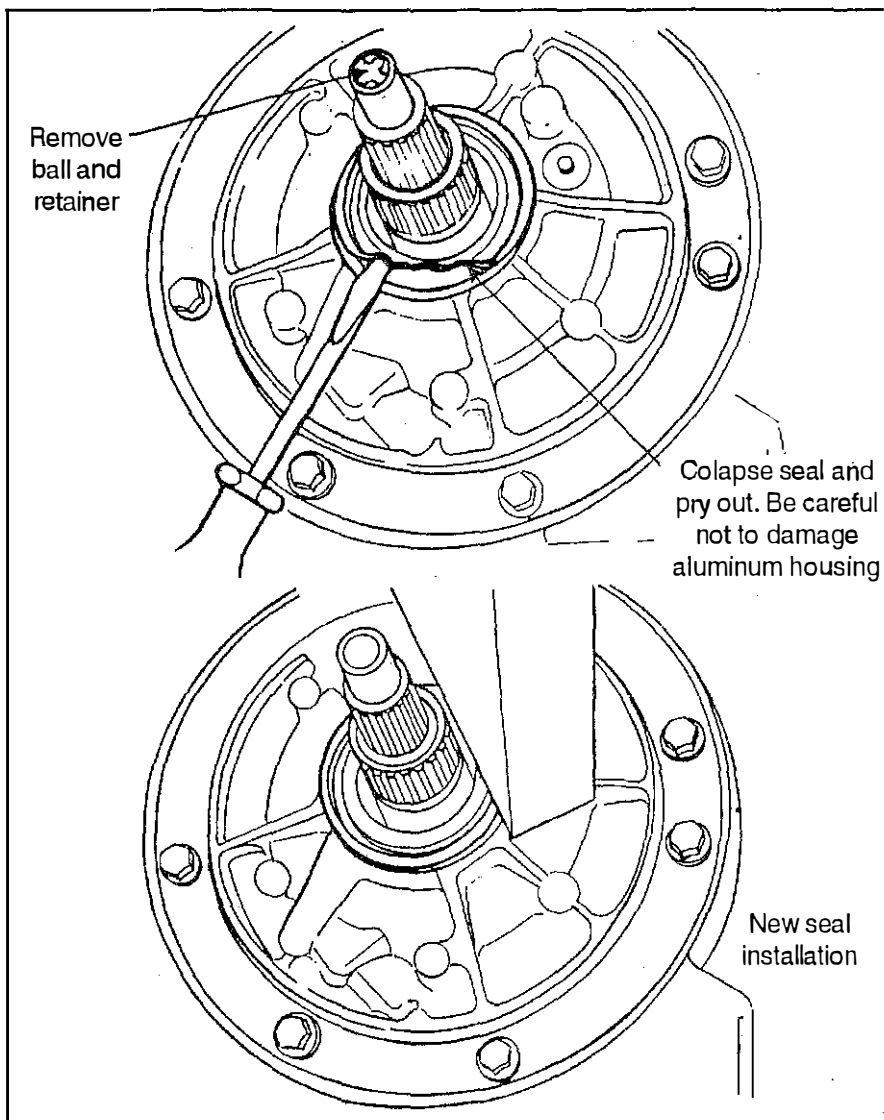

Figure 7
STEP 16. Carefully remove the front seal from the oil pump housing. **CAUTION:** The oil pump housing used in this transmission is made of aluminum alloy and can be easily damaged during seal removal. We recommend the following seal removal procedure to minimize the chance of damaging the pump housing, see (Fig. 7).